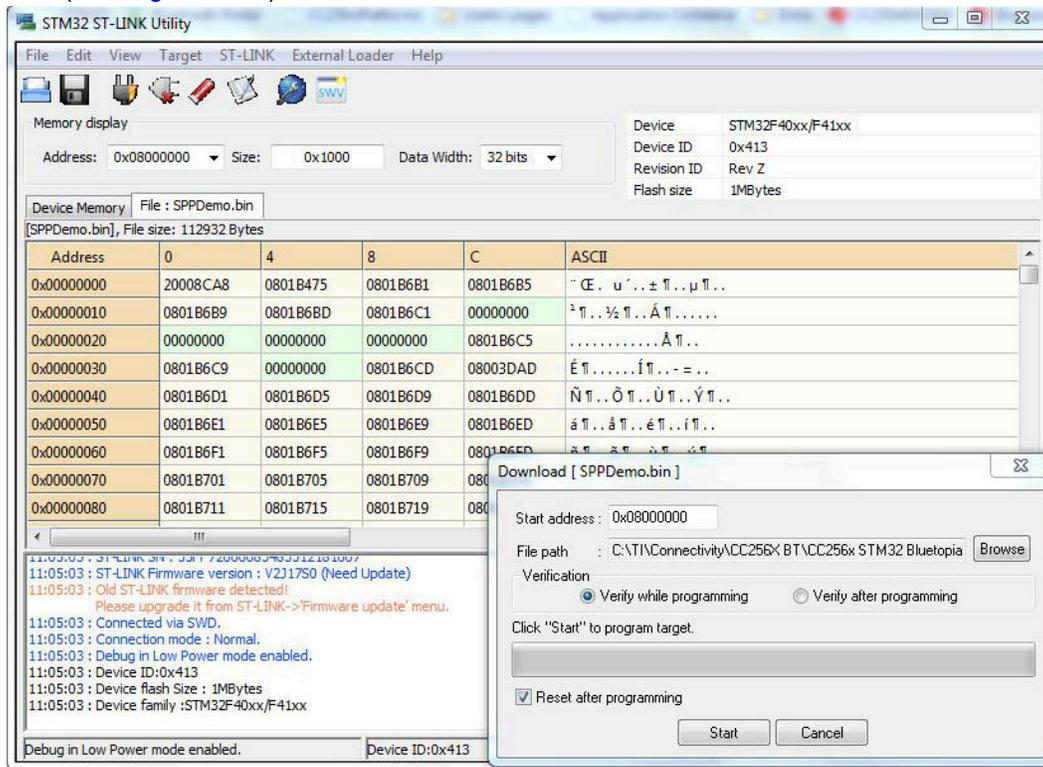

Figure 7-11. Start Download
6. Press Start. (See Figure 7-11.)